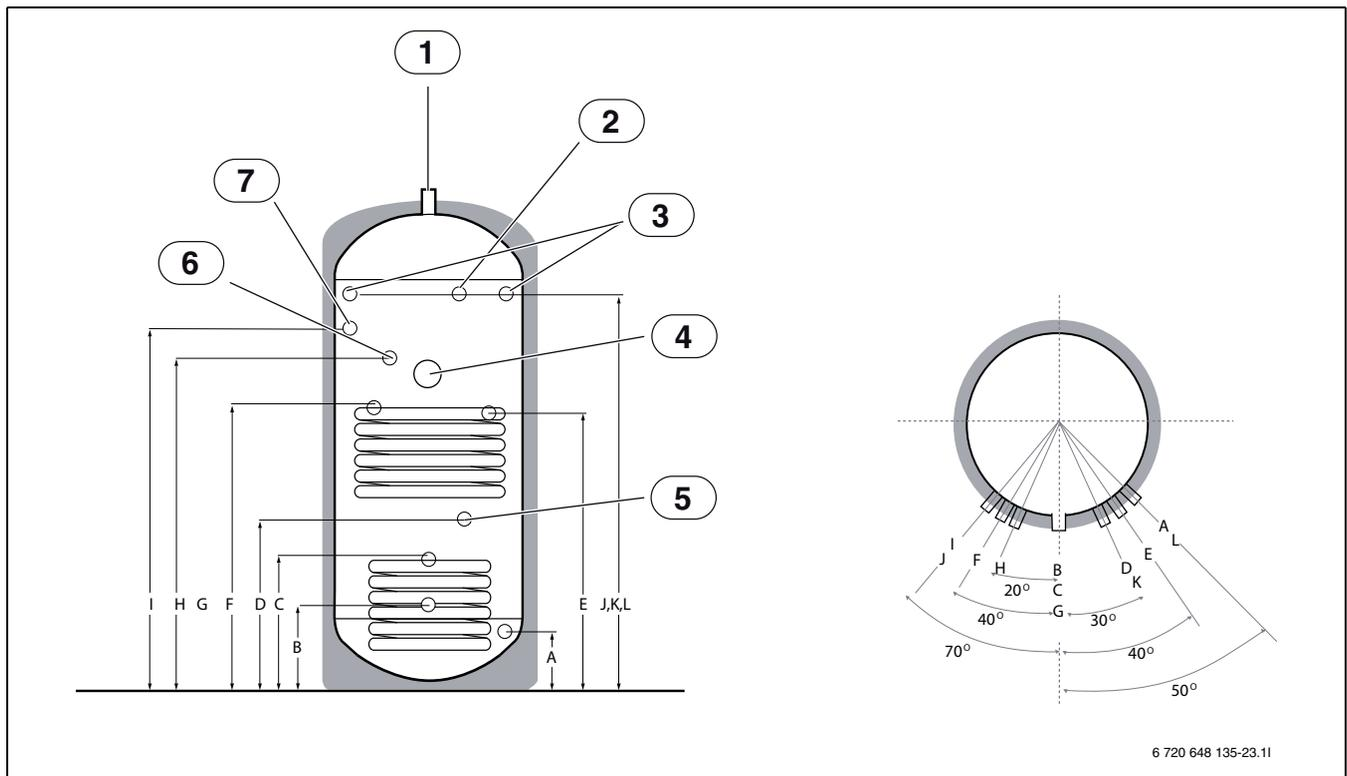

Fig. 25 Example of tank with position of temperature sensor
- ▶ Check the installation guide of the heat pump hot water cylinder for where to position the T3 sensor (example → fig. 25). Correct positioning of the T3 sensor is critical for the hot water comfort.
Table 7 Dimensions in mm as reference to fig 25
Pay attention to the angle offset in figure 25 (H = 20°) when positioning the temperature sensor.